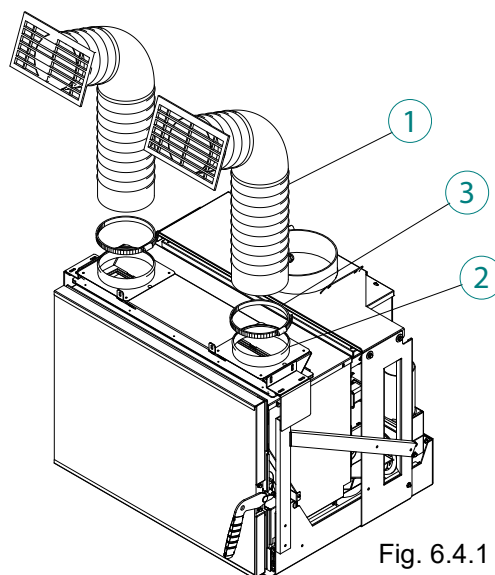

Fig. 6.4.1
Attach the pipe (1) to the collars (3) with the clamps (2) (Fig. 6.4.1).